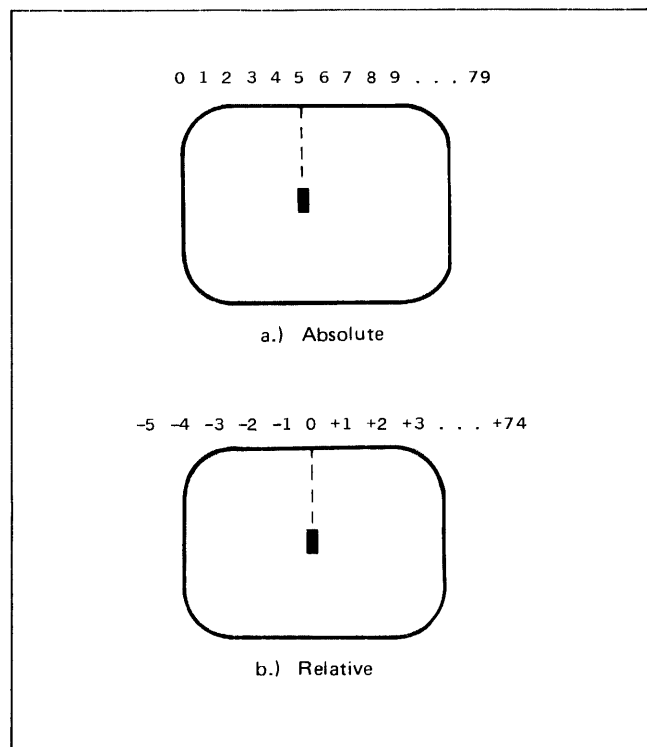

Figure 2-2. Column Addressing
**Column Addressing.** Column addressing is accomplished in a manner similar to row addressing. There is no difference between screen and cursor relative column addressing. Figure 2-2 illustrates the difference between absolute and relative addressing. The cursor is shown in column 5.